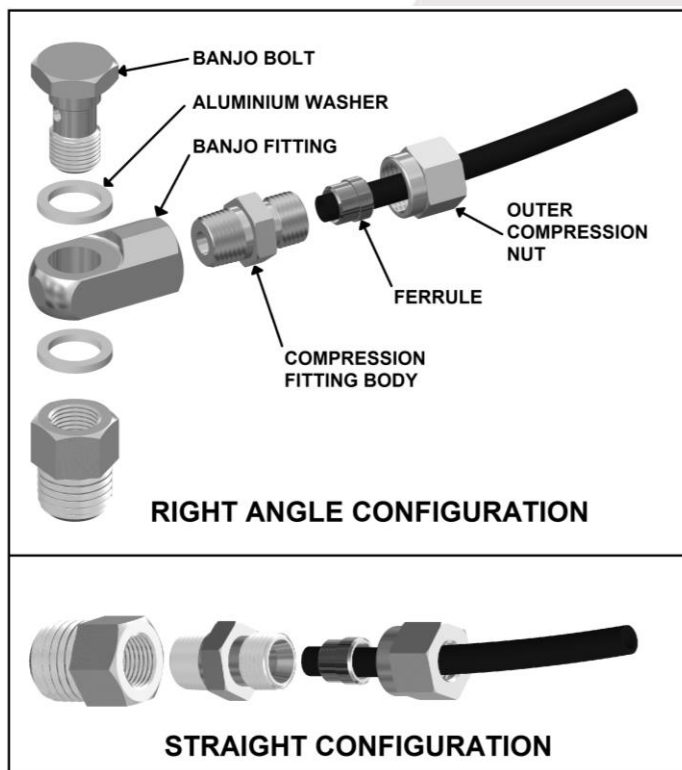

Figure 21.
- Assemble an aluminium washer onto the banjo bolt and insert through the banjo fitting. Assemble second aluminium washer and tighten into bulkhead fitting using a 14mm [9/16"] spanner. (Fig.21.)
- Insert the outer compression nut and ferrule over the air line. Ferrule should be orientated as per Fig.21.
NOTE : When right angle routing of the tube is not required, screw the compression fitting body straight into the bulkhead fitting body (Fig.21.).